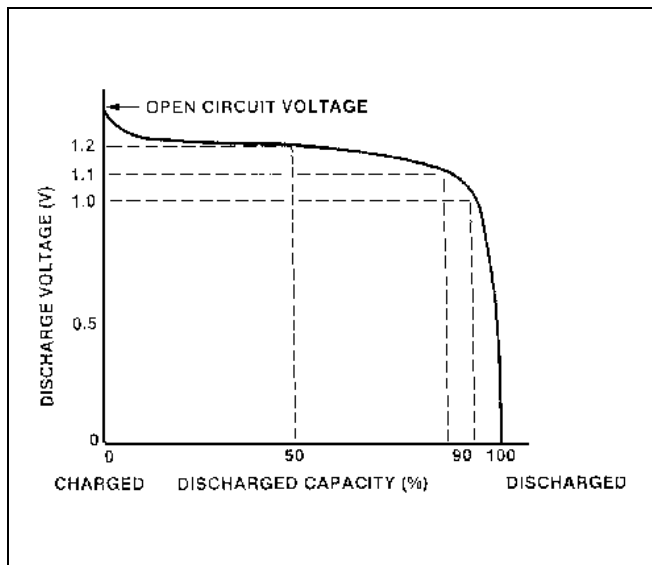

Figure 15 - Typical Ni-Cad Cell Discharge Curve
1. Discharge the battery pack at a normal discharge rate until the output voltage is approximately 1 Volt per cell. This equals 6 Volts output for the M-PA battery packs. Refer to Figure 15. Note the flatness of the discharge curve from 0% - 90%. Experience shows discharging below the "knee" is not necessary.